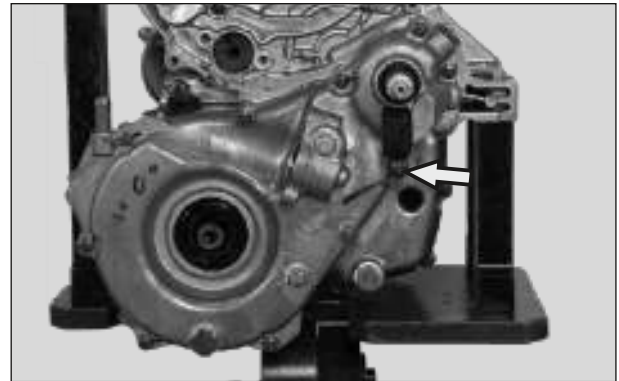

Fig. 3.72
- Loosen and remove 1 no. hexagonal flange Bolt M6x55 from damper hand starter and take out the damper hand starter. (Fig. 3.72)